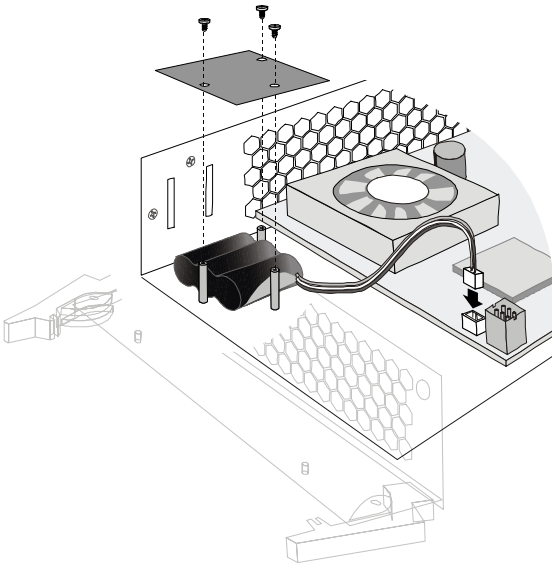

Figure 5-5 Installing the Battery
- 3 Align the battery as shown in Figure 5-5 and place it in the canister between the battery posts.
- 4 Plug the battery cable into the white, three-pronged connector on the DuraStor RAID controller. See Figure 5-5.